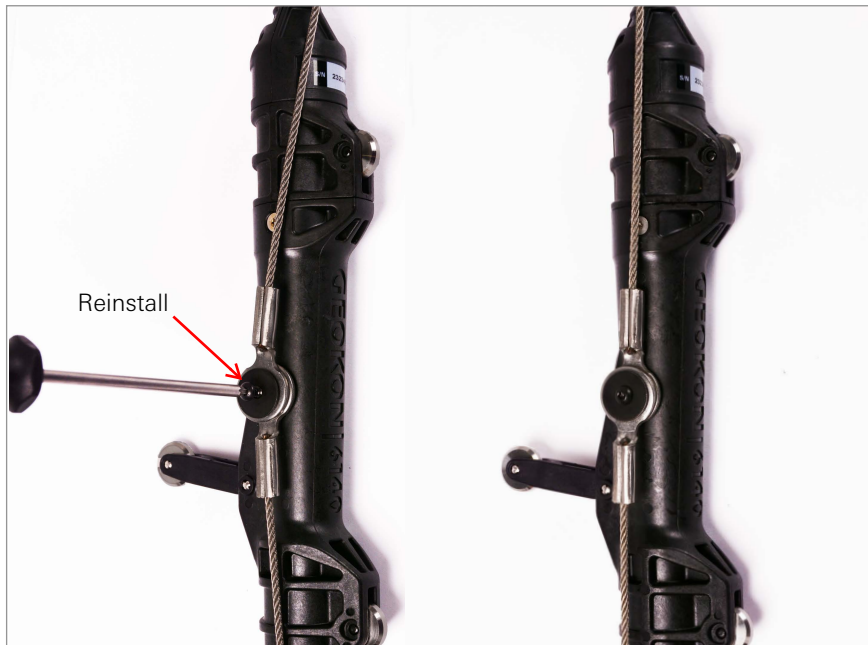

FIGURE 12: *Secure Aircraft Cable Eyelets, Completed Aircraft Cable Connection*
- c. Secure both eyelets to the top sensor by reinstalling the screw and washer. Figure 12 shows the completed connection.